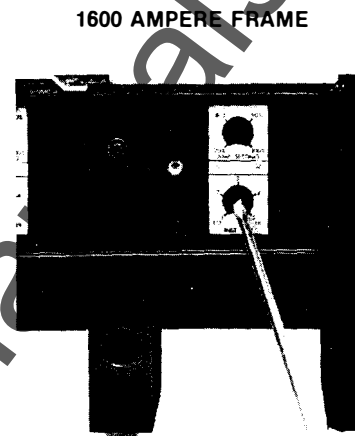

FIG. 16
- B. Change trip setting by rotating plastic buttons with a screwdriver (See Fig. 16).